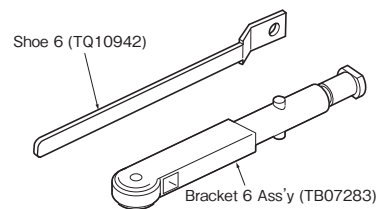

Fig.21
- (1) Bracket 6 Ass'y (TB07283) for B-10N for use with our narrow belt 6 mm in width, best suited for corner grinding or grinding in a narrow space. (Fig. 21)